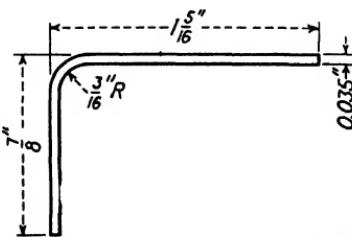

Fig. 319.—Angle of bend 90° .
- 85.** Find the developed length of the fitting shown in Fig. 319.